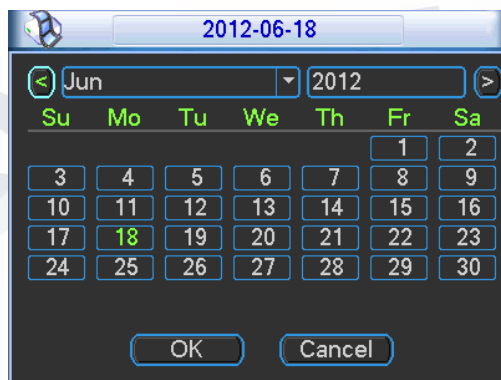

Figure 4-19
- **Record types:** There are four types: regular, motion detection (MD), Alarm, MD & alarm.
- **Holiday setting:** Click it you can see an interface shown as in Figure 4-19. Here you can set holiday date. Check the box, it means current channel shall record as your holiday setup. Please go to the Period interface to set the holiday date record setup. Please note you need to go to Chapter 5.3.1 to enable Holiday function first.